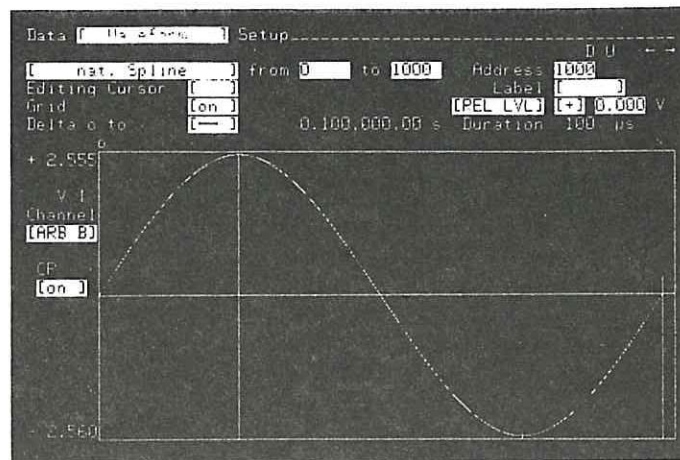

Figure 3B-5. Sinewave from Natural Spline Interpolation
- Press **EXEC**. The message "**WAIT Interpolation in Execution**" will be briefly displayed, then the waveform will appear. If you have done everything correctly it will be as shown in Figure 3B-5. If your result looks different or an error message is displayed, then try again!